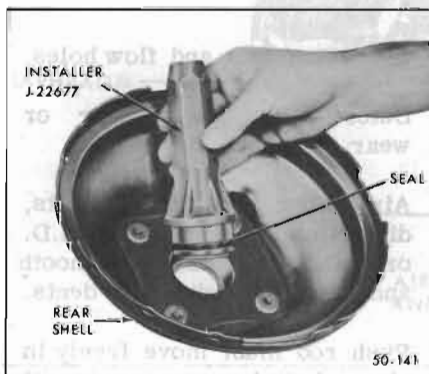

Figure 50-79—Install Rear Shell Seal
1. If rear bearing seal is to be replaced, use Installer J-22671 to press bearing seal in rear shell with plastic side down. See Figure 50-79.